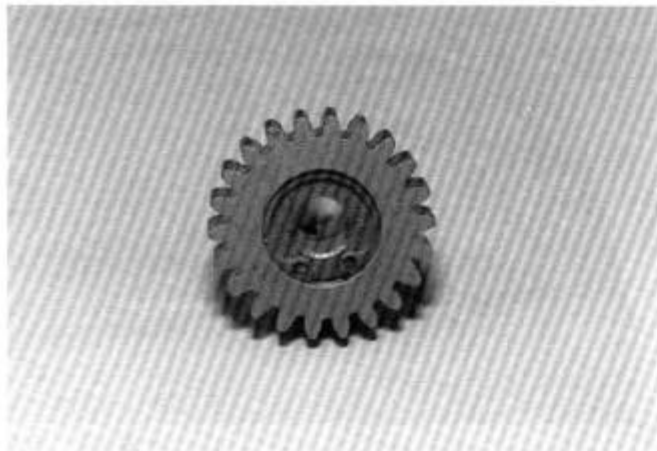

**FIG. 41**
□ **FIGS. 41 & 42**—Whether you have bushings or ball bearings, now install the C-clip to hold them in.